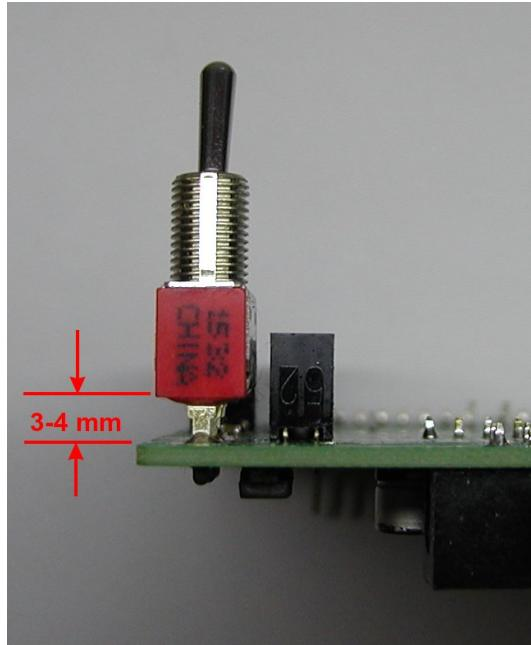

Fig. 11: Power switch mounting
- Finally, we can mount power switch (see Fig. 11). Once again, it's recommended to see how it's aligned with the corresponding hole on the enclosure's front panel first, then adjust its position and start with soldering.